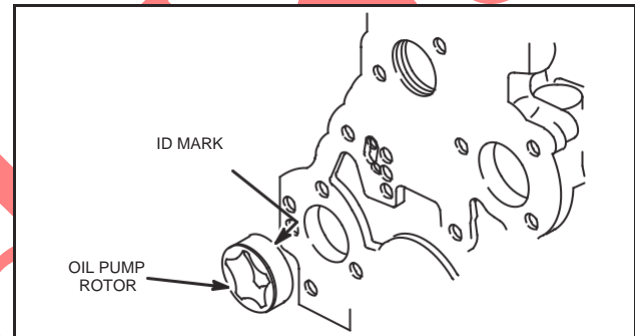

Fig. 14 – Installing Oil Pump Rotor
1. Clean and lubricate oil pump rotor with engine oil and install in cylinder block, Fig. 14.